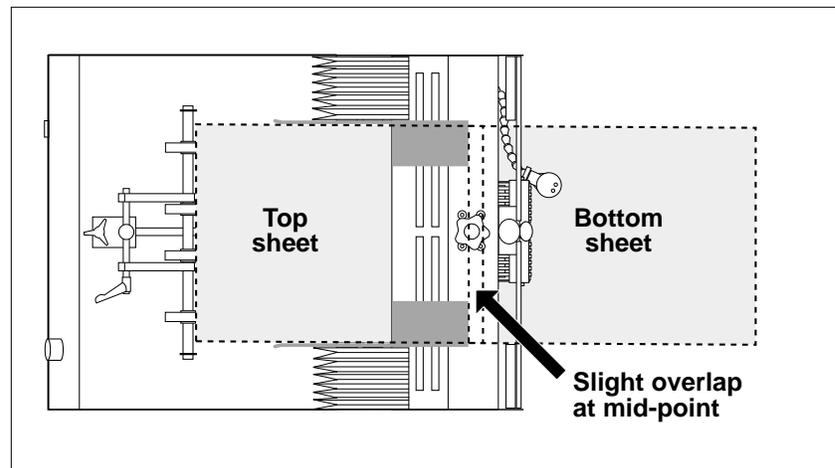

Figure 2-9. Optimum Overlap and Separation of Material
2. Observe how individual material enters and exits the gate assembly area. Remember, a properly set gap will allow each new sheet to enter at about the center line of the cylinder while the bottom sheet is exiting the gate assembly area (Figure 2-9). Ideally, this means a slight overlap of both the first sheet and the second sheet (.125 in. or 3 mm) at the gate assembly area. The overlap occurs as the bottom sheet is exiting and the next sheet is entering.